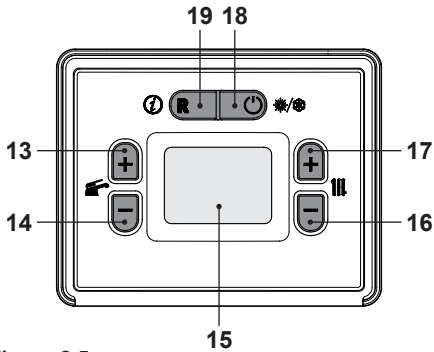

Figure 2.5
- Press the 18 button until the symbol  appears on the display Figure 2.5.
The heating delivery hot water temperature can be adjusted using the 16 (decrease) and 17 (increase) buttons (Figure 2.5) from a minimum of approx. 28°C to a maximum of approx. 55°C or from a minimum of approx. 50°C to a maximum of approx. 80°C (see "Selecting the heating temperature set" on page 43). The first time one of these two buttons is pressed the "set" value is displayed; the second time it is pressed this can be changed.
If the room temperature is not comfortable, you can increase or decrease the heating system delivery temperature by $\pm 15^{\circ}\text{C}$ using the 16 (decrease) and 17 (increase) buttons (Figure 2.5).
The domestic hot water temperature can be adjusted using the 13 (increase) and 14 (decrease) buttons (Figure 2.5) from a minimum of approx. 35°C to a maximum of approx. 60°C . The first time one of these two buttons is pressed, the "set" value is displayed. The second time it is pressed, the value can be changed.